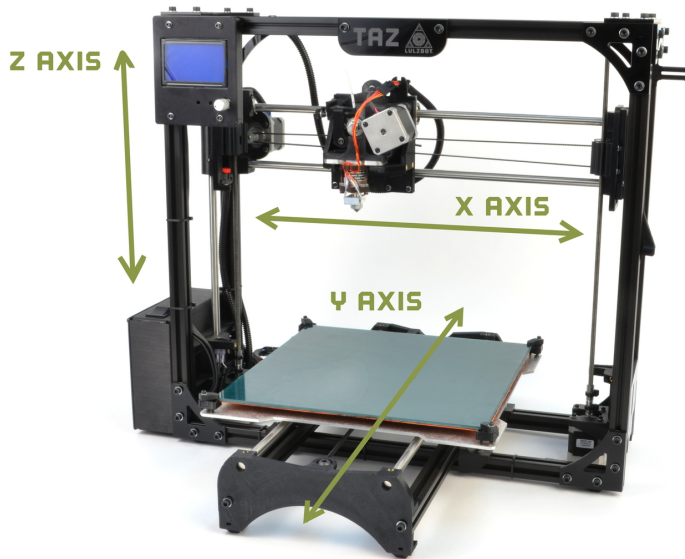

Figure 1.1: Axes movement directions
1. Your printer has been calibrated and tested, however, after unpacking all of the components you will need to re-mount the Y axis onto the frame and connect the bed and Y axis connectors. You will also need to re-mount the extruder tool head. Please follow the steps completely to make certain that the extruder tool head and Y axis are re-mounted correctly. You will then be on your way to your first print. Use Fig. 1.1 to see which direction the three axes move, as the following instructions will reference the X, Y, and Z axes.